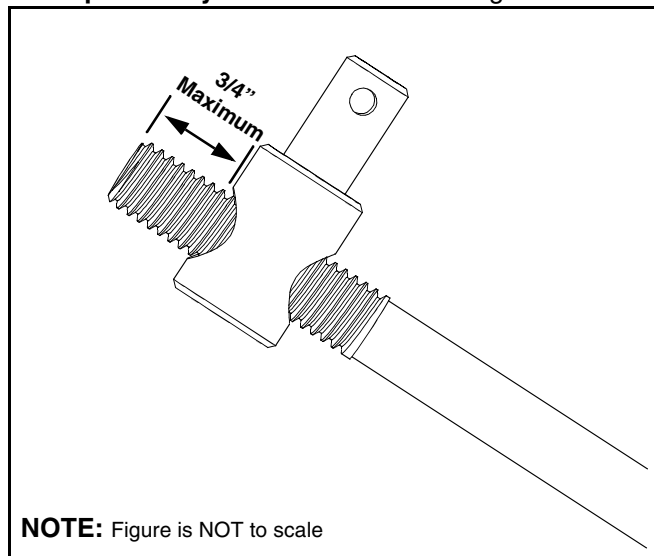

Figure 19
- Adjust the speed control by threading the ferrule inward so that **no more than 3/4-in. of the rod is exposed beyond the ferrule**. See Figure 19.